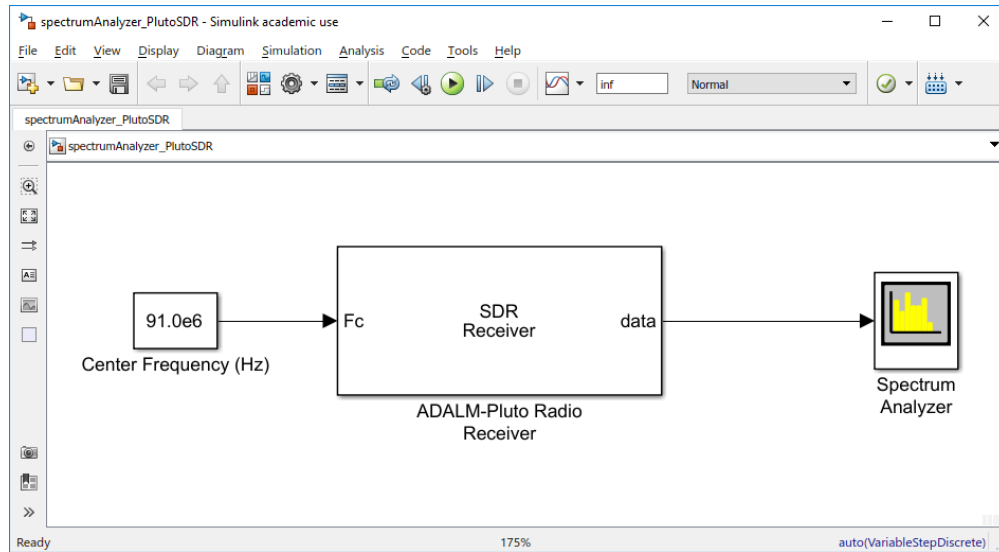

Figure 11: Simulink model for the Spectrum Analyzer.
1. Open a new Simulink model and create the model shown in Figure 11. The specific components you will need are: